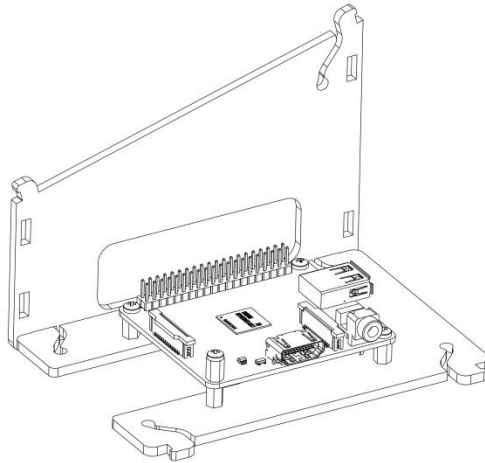

Figure 4
- 9) Fit the side plastics to the left-hand side of the base plastics as shown in *Figure 4*. Note that both left and right side plastics are identical.